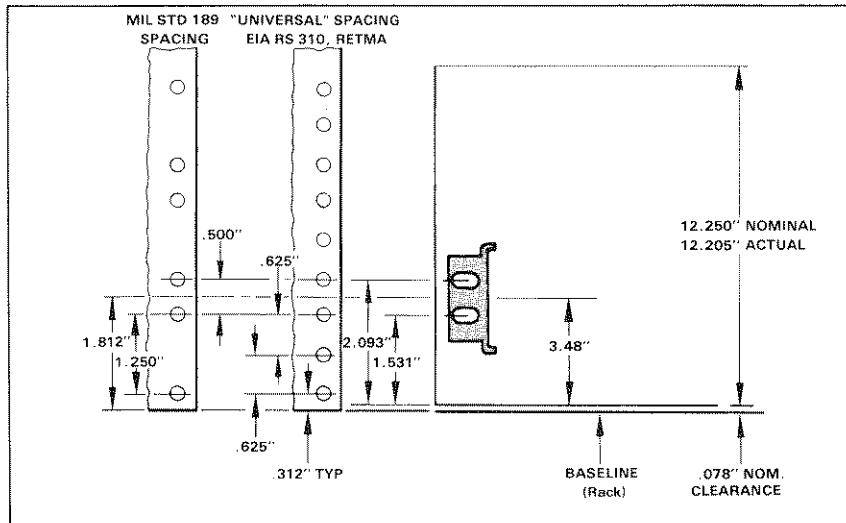

Figure 1-2. Rackmount Hole Spacing.
**Rackmounting.** The 370 fits most commercial consoles and 19-inch racks with rail holes that conform to universal spacing. See Figure 1-2 for hole spacing details. When rackmounting the 370, take note of the following:
1. Select the appropriate holes in the rack rail, using Figure 1-2 as a guide.